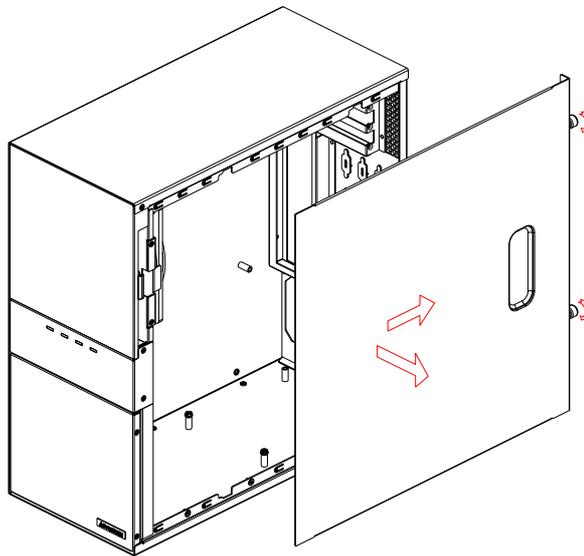

Figure 2.1 Removing the side cover
2. Pull the chassis side cover backwards and then pull it out (Figure 2.1).